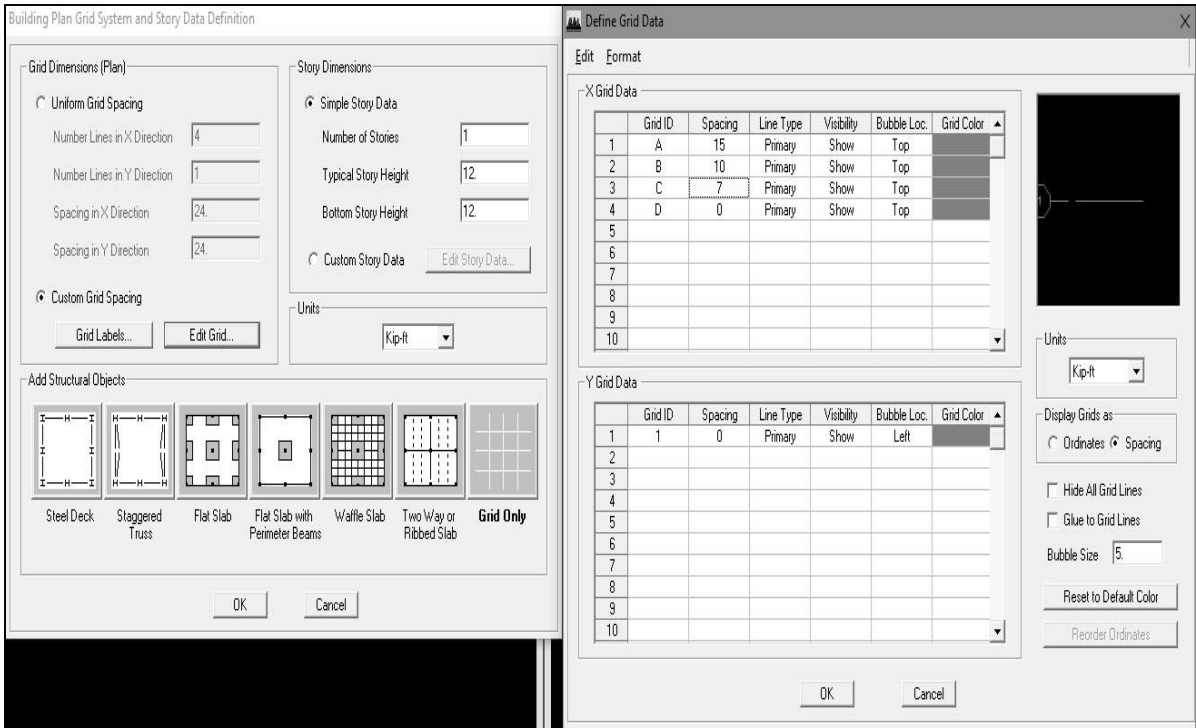

Fig : 2.2
- 1.1. Open ETABS software → File → New Model → no → Units = Kip-ft → Number of lines in Xdirection = 4 → Number of lines in Y-direction = 1 → Number of stories = 1 → Click on Custom Grid spacing → Edit Grid → Click on Spacing → Then X-direction Grid spacing A = 15, B=10, C=7, D=0 → OK → Grid only → OK. (Fig: 2.2)